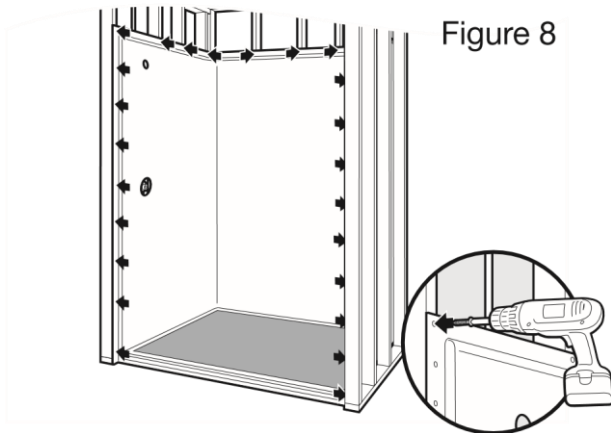

Figure 8
9. Pre-drill vertical nailing flanges starting from the floor and moving up every 8 inches. Pre-drill horizontal flange at each stud. Draw a line on the floor where the front of the threshold lies. Remove the unit from the alcove. See Figure 8. Note that your drawn line will mark the farthest reference for silicone sealant.
- Fasten vertical nailing flanges to studs starting from the floor. Move upward every 8" (208mm). Fasten the horizontal nailing flanges at every stud. Use pre-drilled holes from step 9. See Figure 8.